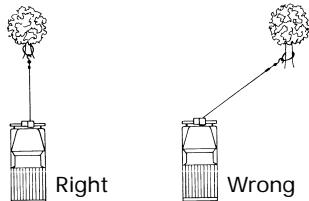

Figure 5
- 13. AVOID CONTINUOUS PULLS FROM EXTREME ANGLES** as this will cause the wire rope to pile up at one end of the drum (Figure 5). This can jam the wire rope in the winch, causing damage to the wire rope or winch itself.